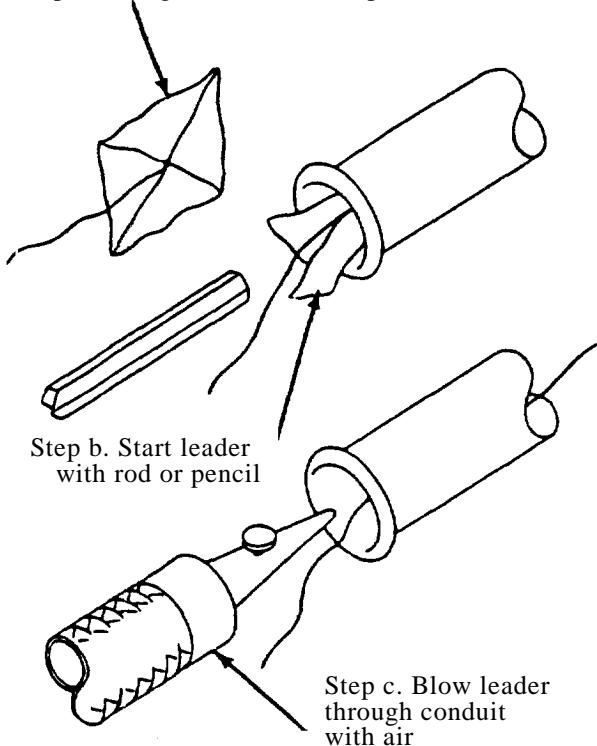

Figure 11. Leader for Conduit
19. FEEDING WIRES INTO CONDUIT. Feed wires through a short length of conduit by taping the end of the bundles together and pushing it gently through. Longer runs of conduit or conduit with complex bends will require a leader. Make a leader out of a flannel or other soft cloth patch attached to a string long enough to pass completely through the conduit. The patch should fit loosely in conduit (Figure 11). Use compressed air at no more than 35 psi to blow patch and attached string through the conduit. Tie wire bundle securely to string and tape over junction to cover all wire ends. Pull string through conduit while carefully feeding wires into other end. After wire is installed, remove tape and detach string.